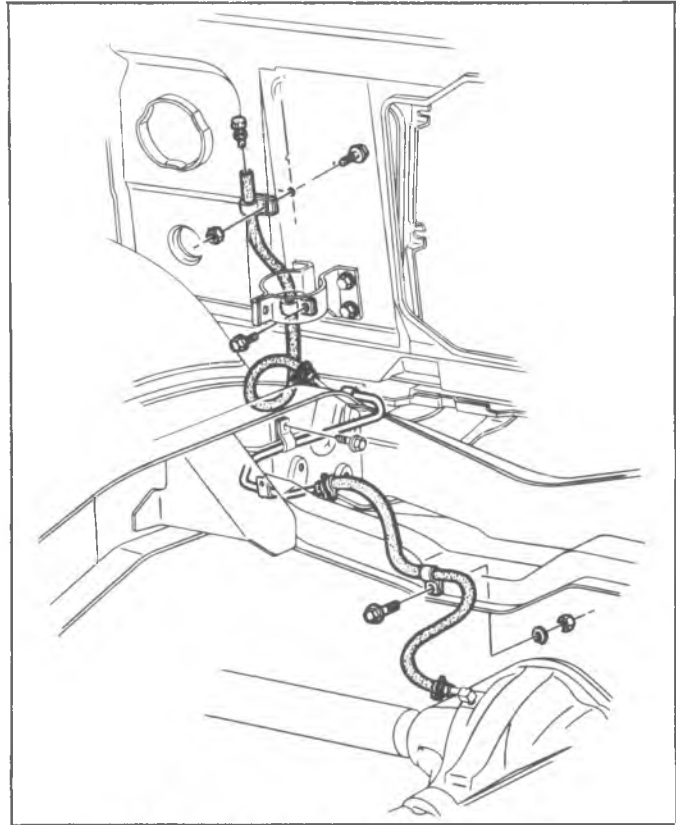

Fig. 56—Axle Vent Hose Routing - Typical
6. Disconnect axle vent tube clip at the differential housing (see fig. 56).